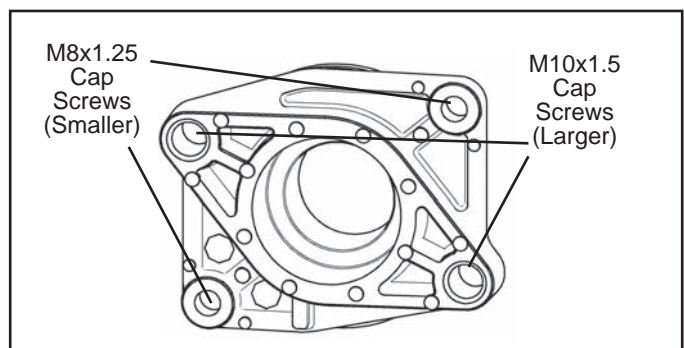

FIGURE 10 - REAR END COVER ATTACHMENT BOLTS
- Note: There are two cap screws used to retain the end cover to the crankcase. There are two longer cap screws (not shown in Figure 10) that are used to retain the auxiliary drive unit (i.e. hydraulic pump) via the end cover and torqued into the crankcase. If the auxiliary drive unit has already been removed, these two cap screws are no longer present on the end cover. Refer to Figure 9 to see location of the cap screws in the end cover.
- Remove the rear end cover from the crankcase. Remove and discard the o-ring (10) from the end cover.
1. Install the o-ring (10) on the rear end cover.
3. Install the two end cover cap screws. *Refer to Figure 10 to assure that the two cap screws are installed in the proper crankcase bolt holes.* "Snug" the screws then tighten to 195 to 212 inch pounds (22-24 N•m).